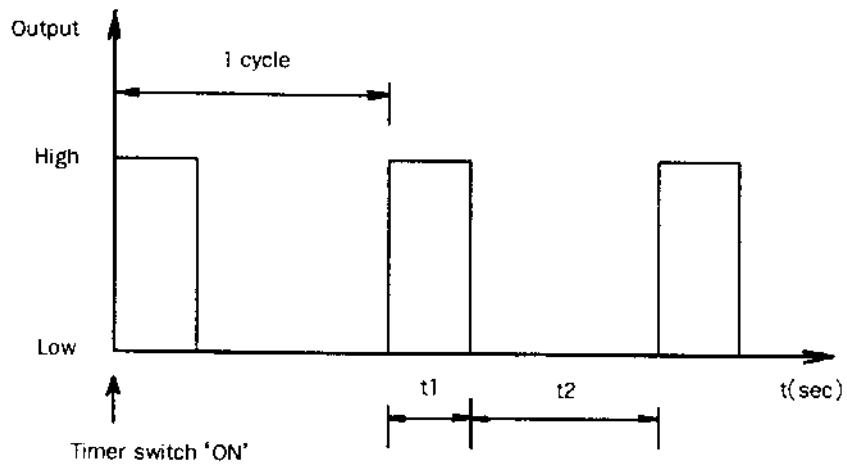

FIGURE 9-6
The cycle of current output from the wiper timer (3) can be shown on a graph. See Figure 9-6. The wiper motor (2) operates only when the current is at the high level (t1). The wiper motor is not powered during time t2. The time necessary to complete 1 cycle is 5.7 seconds.